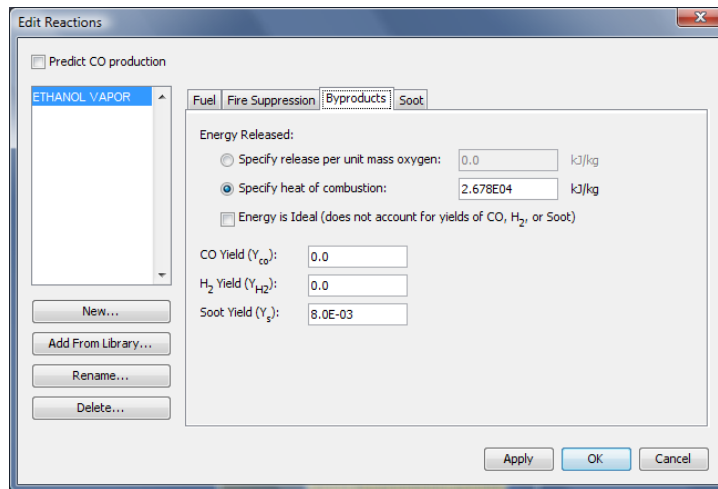

Figure 11.4. Byproducts panel of the Edit Reactions dialog for an ethanol fire
5. On the **Byproducts** tab, you can select either **Specify release per unit mass oxygen** ( $EPUMO_2$ ) or **specify heat of combustion** ( $HEAT\_OF\_COMBUSTION$ ). You can also specify the CO yield, H2 yield, and Soot yield. The values used for the ethanol pan fire are shown in Figure 11.4